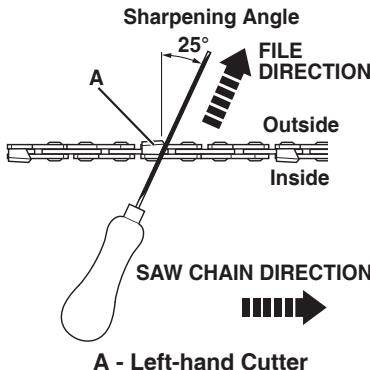
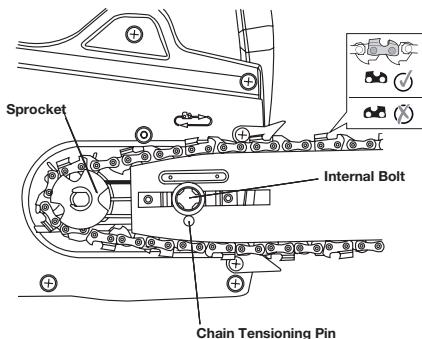

Fig. 18
Fig. 21
3. File at an angle perpendicular to the bar, and at an angle of 25° to the direction of travel (Fig. 18).
4. Place the saw chain around the sprocket (Fig. 21) while lining up the slot in the chain bar with the internal bolt at the base of the saw and the chain tensioning pin in the chain bar's pin hole (Fig. 18). The chain tensioning pin may need adjustment to properly align with the hole in the chain bar. Use the chain tensioning wheel to adjust its location until it fits in the chain bar.